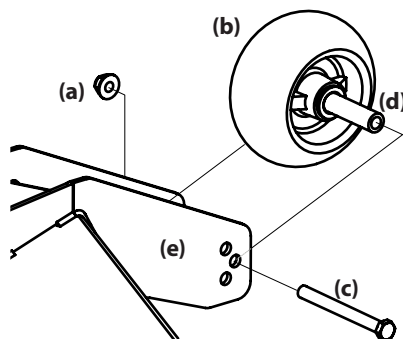

Figure 43
2. Remove the lock nut (a) securing one of the front gauge wheels (b) to the deck. Remove the front gauge wheel (b), hex screw (c) and spacer (d). See Figure 43.
3. Insert the hex screw (c) into one of the three index holes in the front gauge wheel bracket (e) that will give the front gauge wheel (b) a 1/4-1/2" clearance with the ground. See Figure 43.
4. Note the index hole of the just adjusted front gauge wheel (b), and adjust the other front gauge wheel (b) into the respective index hole of the other front gauge wheel bracket (e). See Figure 43.